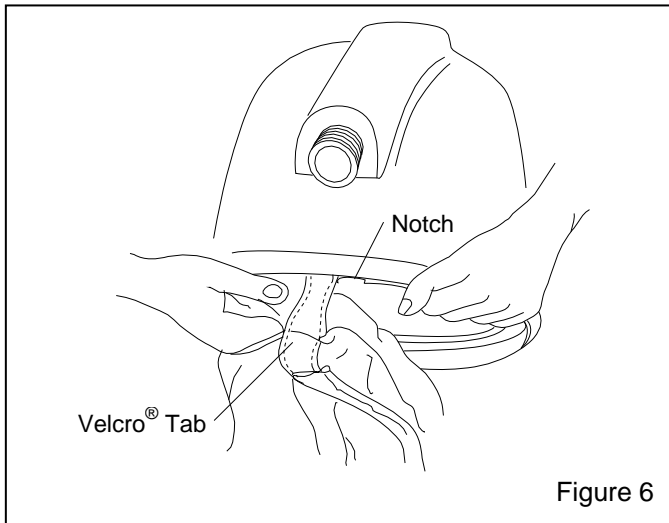

Figure 6
9.5.2 Separate the Velcro® tabs on the back of the cape. Refer to Figure 6.